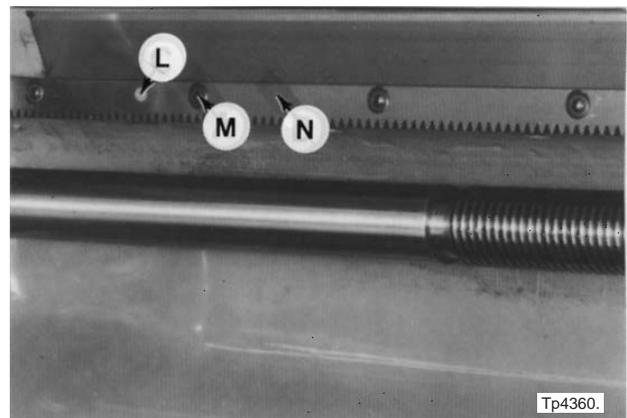

Figure 1.33 - Carriage Rack
16. Pull the carriage by hand past the end of the bed until gear rack "N", Figure 1.33, is completely exposed.
Dowel pins "L", Figure 1.33, may have remained in the bed or come out when rack "N" was removed.
1. Install rack "N", Figure 1.33, on the bed: